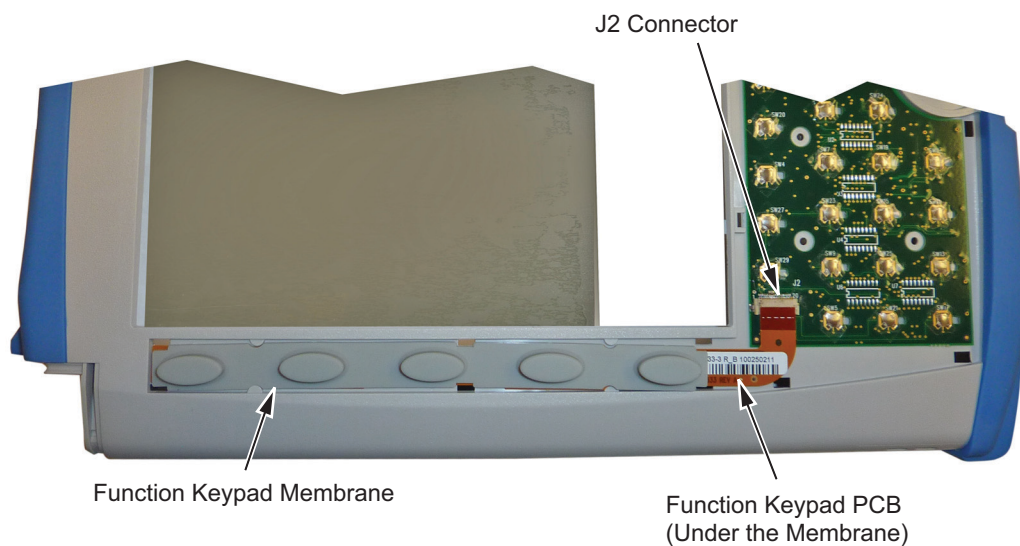

Figure 7-12. Function Keypad Membrane and Function Keypad PCB
4. Remove the function keypad membrane by gently pulling the membrane up and away from the front panel (Figure 7-12).
5. Disconnect the function keypad PCB from J2 of the main numeric keypad PCB by carefully lifting the locking tab on connector J2 to release the function keypad PCB (Figure 7-12).